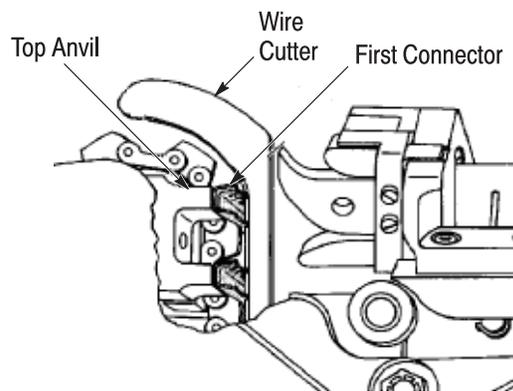

Figure 5
9. Cycle the applicator until the first connector aligns with the top anvil as shown in Figure 5.